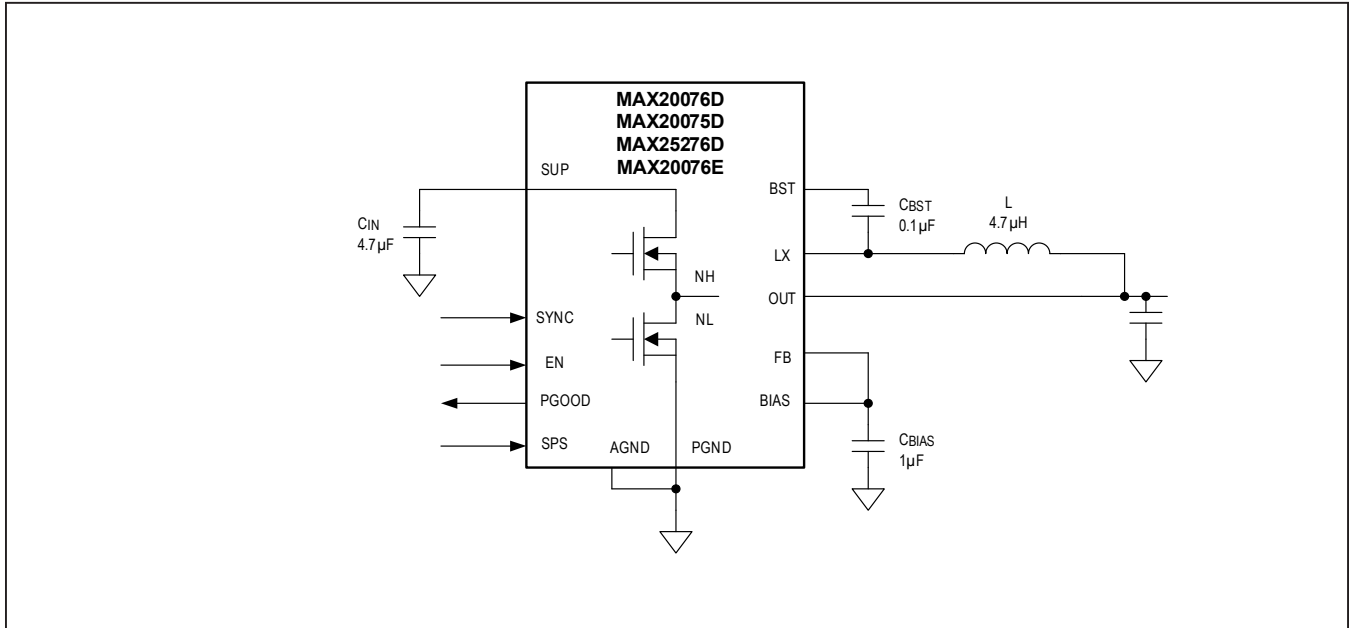
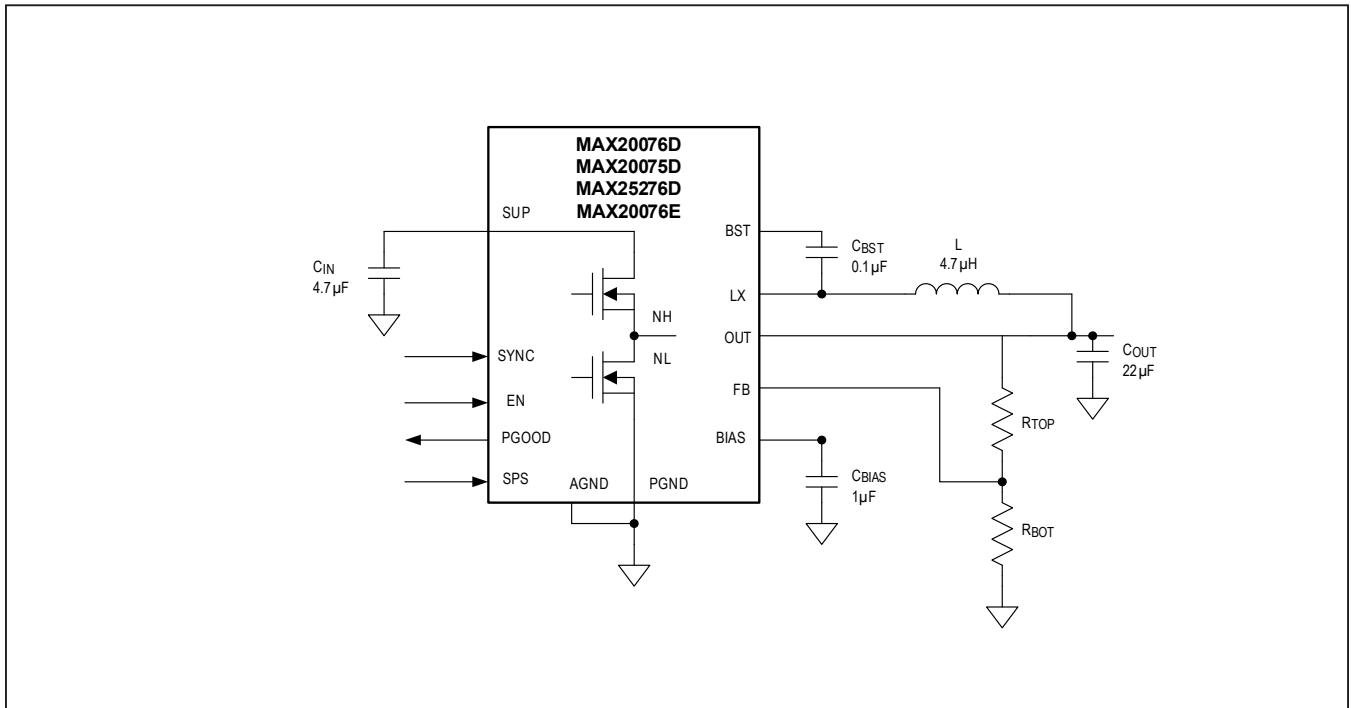

Figure 2. MAX20075D/MAX20076D/MAX20076E/MAX25276D Application Circuit with Fixed Output Voltage
Figure 3. MAX20075D/MAX20076D/MAX20076E/MAX25276D Application Circuit with External Resistor-Divider to Set Output Voltage
- 1) The input capacitor (4.7µF, see Figure 2, Figure 3, and Figure 4) should be placed right next to the SUP pin. Since the MAX20075D/MAX20076D/MAX25276D operate at 2.1MHz switching frequency, this placement is critical for effective decoupling of high-frequency noise from the SUP pins.